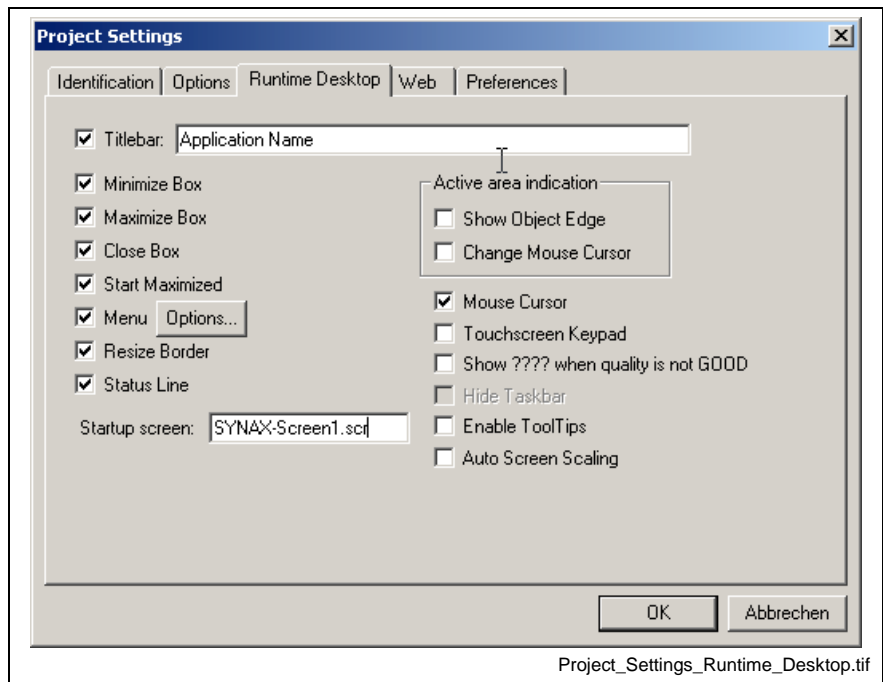

Fig.5-5: Project settings of the runtime desktop
- See "Fig.5-5: Project settings of the runtime desktop"